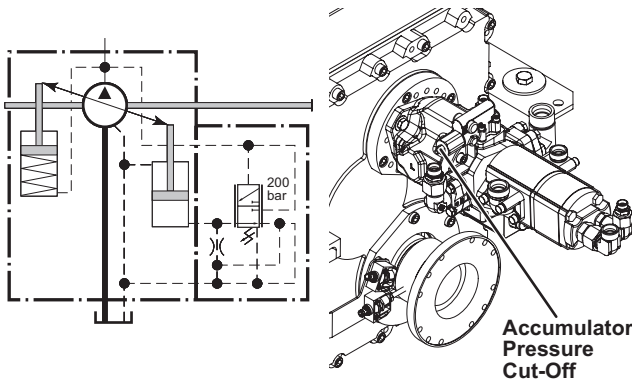

Figure 45
2. Loosen the jam nut on the pressure regulator of the accumulator hydraulic pump (Figure 45). Turn the screw *in* (clockwise) to increase the pressure or *out* (counterclockwise) to decrease the pressure.